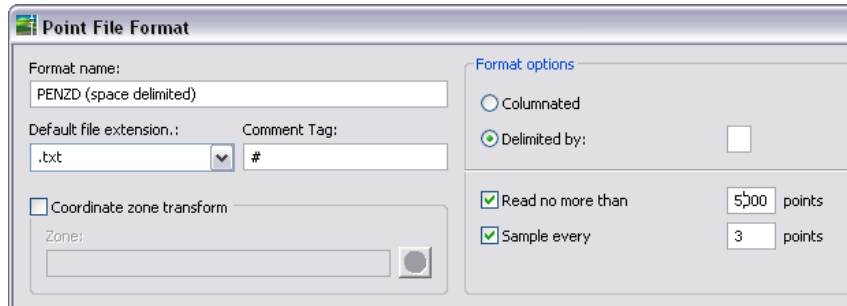

Figure 1: Settings for point file filtering
Ensure that your point file does not contain many more points than what is required for your surface. Excessive points can mean a coverage area that is too large, or a point density that is unnecessarily high. In either case, it means extra processing every time the surface is saved or regenerated. If you know that your point file includes more points than necessary, you can filter the file at the time of import, limiting the number of points imported, or sampling a fraction of the points. To do this, configure the point file format in advance. On the Toolspace Settings tab, click Point ► Point File Formats, and then select the type of file you want to import. As shown in figure 1, settings exist on the lower right for reducing the size of the imported file.
- 3 Create a point-filtered surface in AutoCAD Civil 3D, reducing the point density of the LIDAR data, as shown in figure 1.